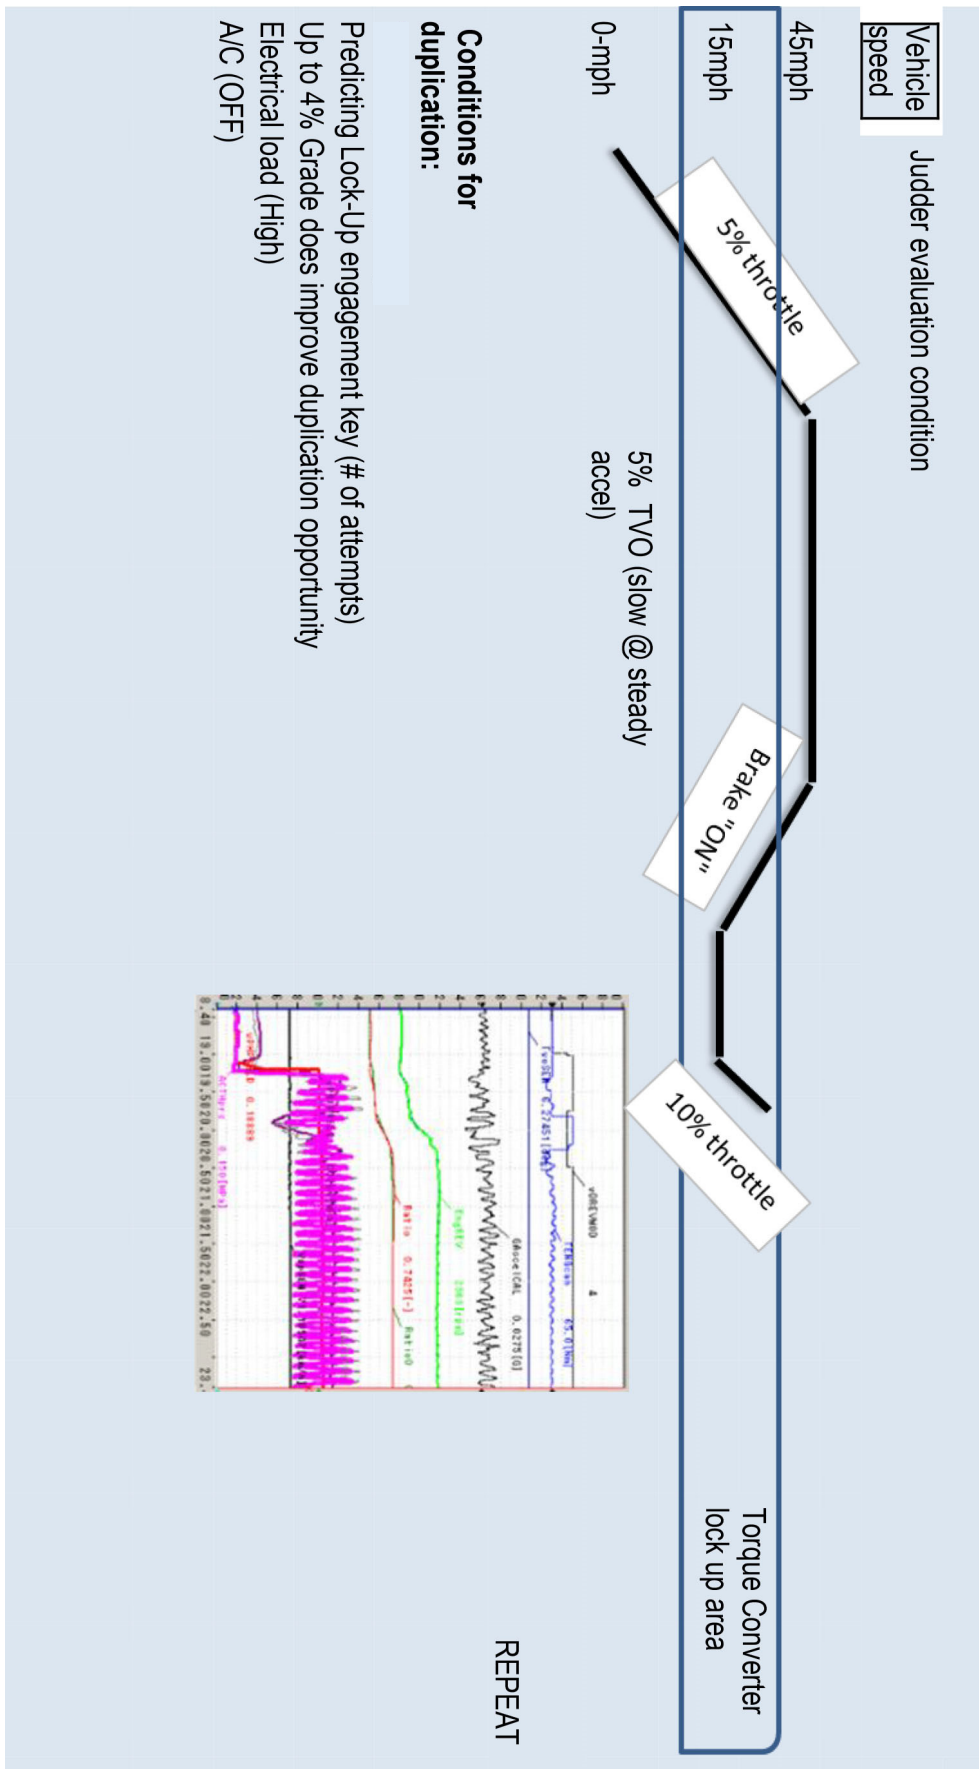

Figure 8
- Figure 8, on the next page, illustrate conditions under which judder can be reproduced.
Figure 8 below illustrates conditions under which judder can be reproduced.